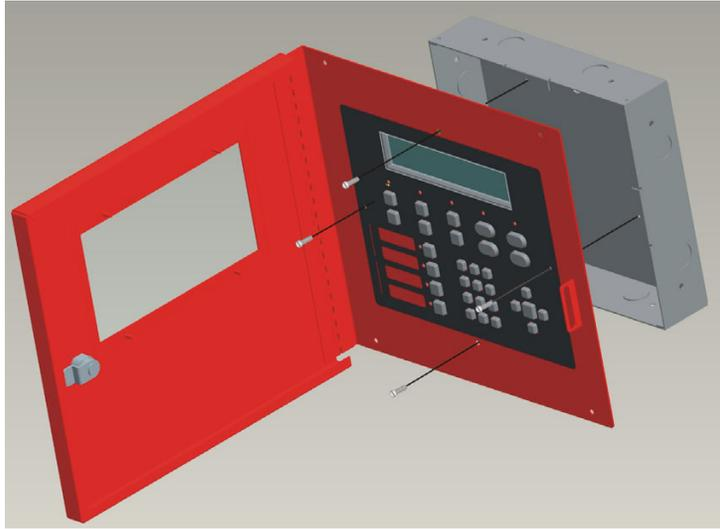

Figure 4-13 Attaching Annunciator / Door Assembly to Backbox
- Attach the annunciator and door assembly to back box as shown in Figure 4-13 using the supplied screws.